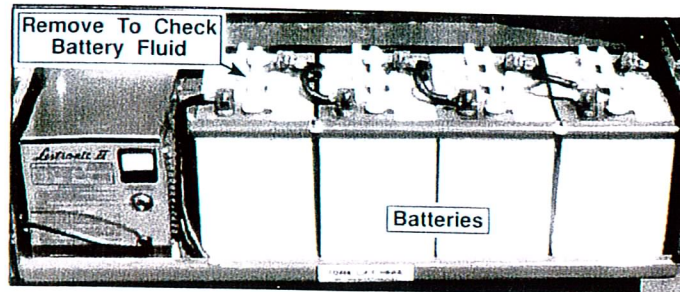

Figure 8: Chassis Power Module, Left Side
Check battery fluid level daily (Figure 8), especially if work platform is being used in a warm, dry climate.
1. Check battery fluid level (Figure 8). If electrolyte level is lower than $\frac{3}{8}$ in. above plates add distilled water only.